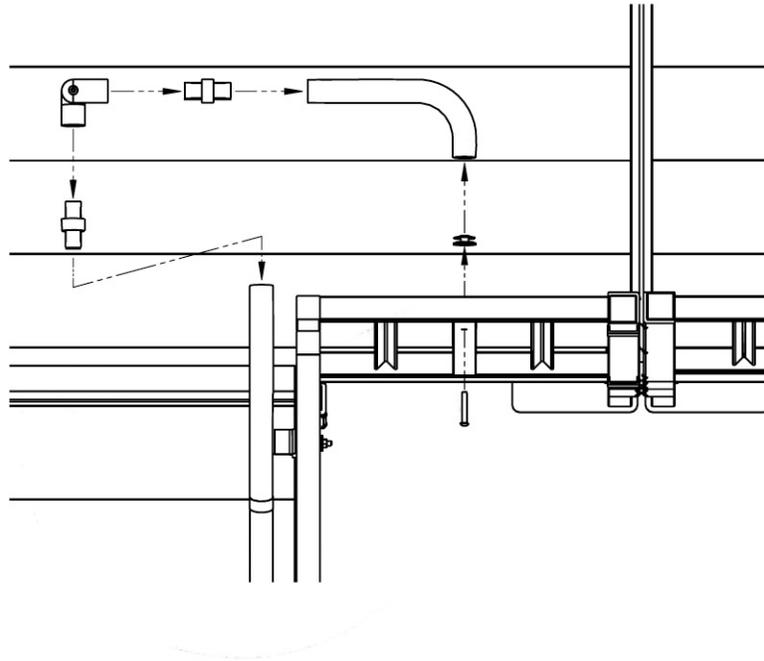

FIG. 22
- 5.3 For situations where the step guard is not adjacent to a ramp and is at 90° to a 6' platform refer, to steps 5.3.1 through 5.3.11 for returning the step handrail to the filler section (FIG. 22).